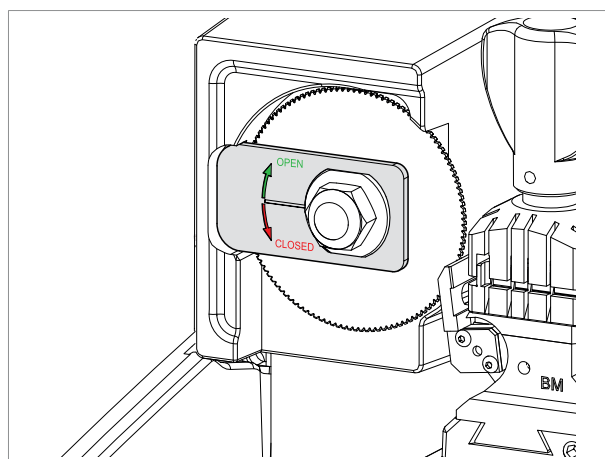

Fig. 145
- 2) Raise the protective shield (C).
- 3) Place the cutter release plate (F3) (provided) on the cutter nut, as shown in Fig. 145.